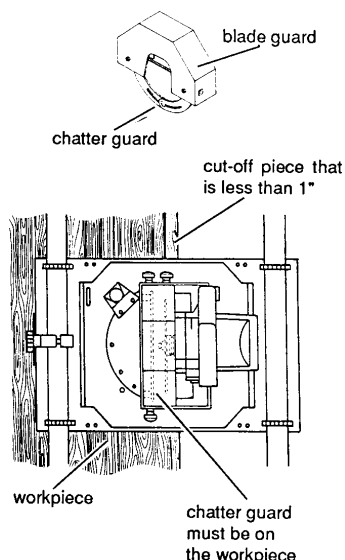

Figure 28: Chatter Preventer (H Series shown, in position for crosscutting)
11. When making cuts that are less than 1 inch, the chatter guard (located inside the blade guard) must be resting on the workpiece, not on the cut-off piece. See Figure 28. If it is not positioned this way, it will jam the workpiece and prevent the carriage from continuing through the cut. If the saw jams, turn the tool OFF and wait for the blade to stop. Then back the saw out of the cut.